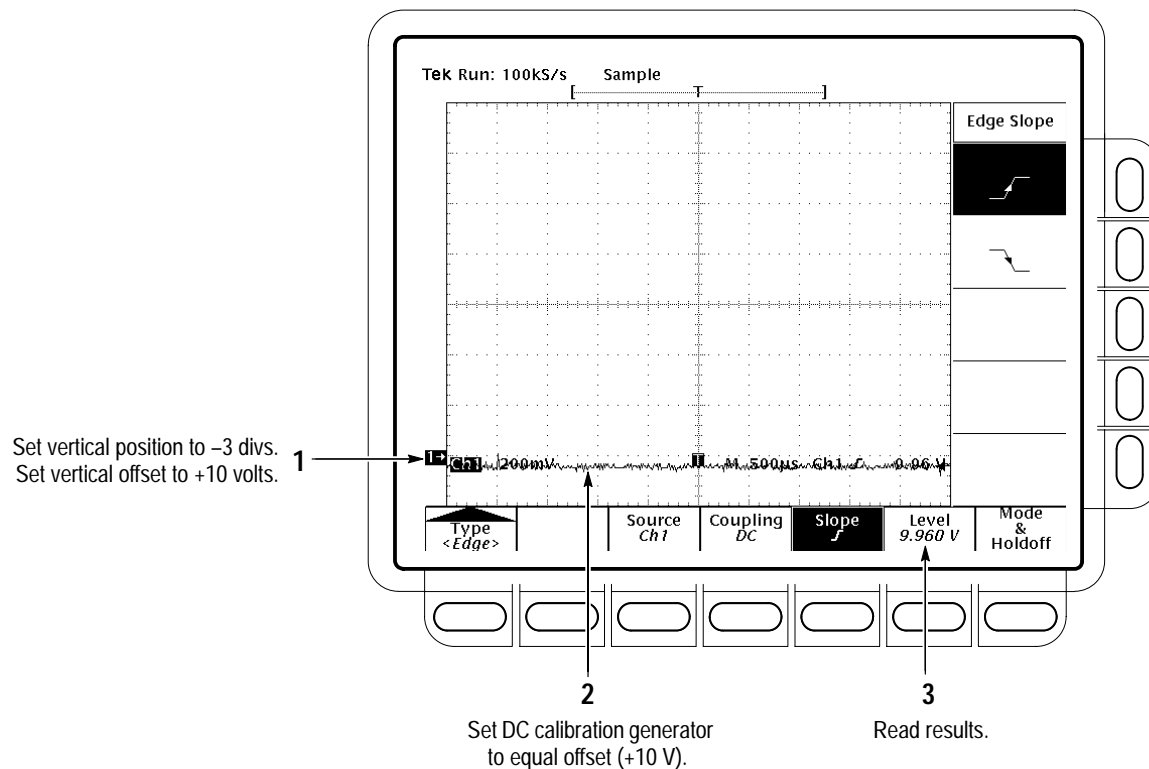

Figure 1-17: Measurement of trigger-level accuracy
- Set vertical position to -3 divisions (press **-3**, then **ENTER**, on the keypad). The baseline level will move down three divisions. See Figure 1-17 on page 1-55.
- Set the standard output of the DC calibration generator equal to the offset. The DC test level will appear on screen. See Figure 1-17.
- c. *Read results (Check against limits):* See Figure 1-17.